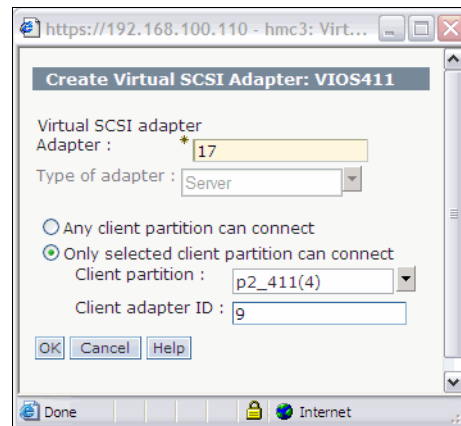

Figure 5-9 Virtual SCSI Server Adapter Add Panel
3. Dynamically add two virtual SCSI server adapters to the Virtual I/O Server, one for rootvg and the other for the data disk. An example of the panel in which you create a virtual adapter is displayed in Figure 5-9.